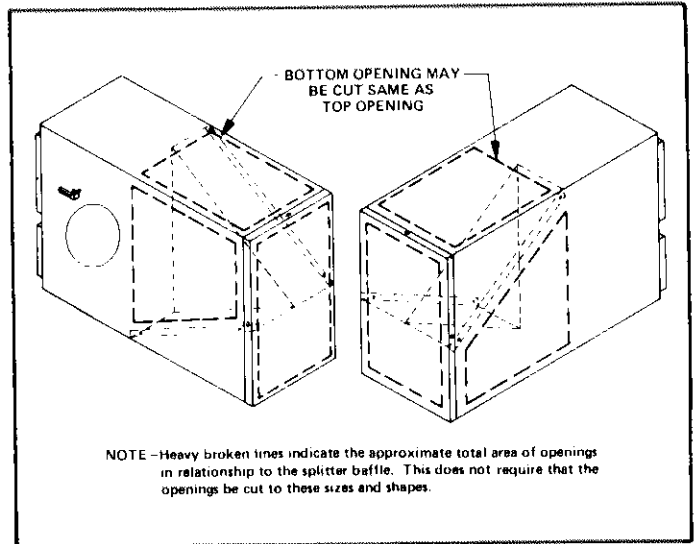

FIGURE 11
- 2 - The supply air from the hot and cold ducts are transitioned in the zone damper box by a splitter baffle. Refer to Figure 11 for the duct take offs in relationship to the splitter baffle.